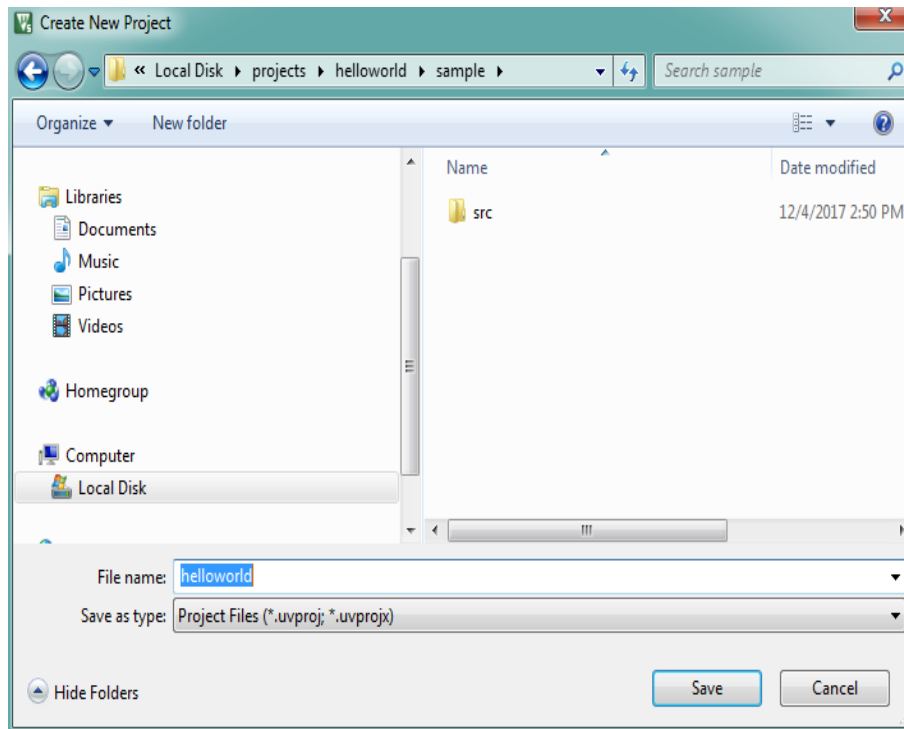

Figure 3: Project Setup
- 3) Under the directory of choice, specify the project name as helloworld and click Save, see Figure 3.